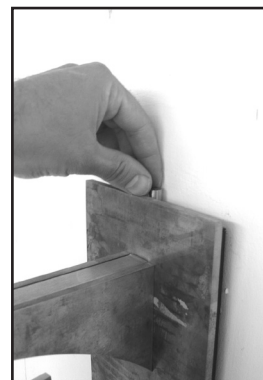

Figure 5
Step 9 Thread decorative knob on stud at the top of backplate. (See Figure 5)